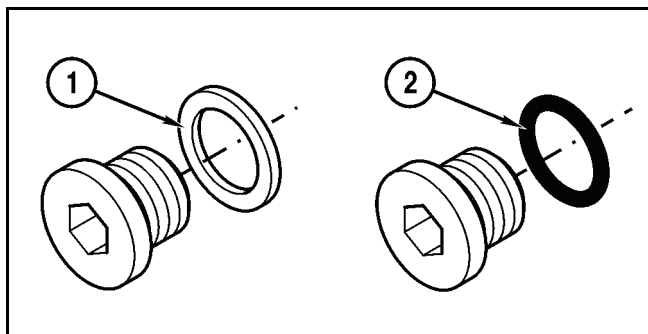

Figure 5-45
- Plug with Copper Washer (**Figure 5-45, 1**): 52 lb-ft (71 N·m)
- Plug with O-ring (**Figure 5-45, 2**): 37 lb-ft (50 N·m)